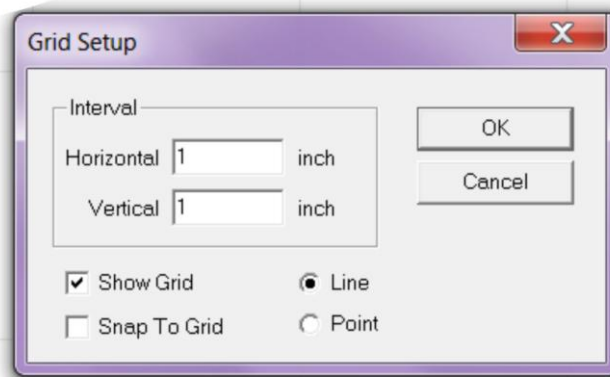

Figure 2
5. Alignment and reference are very important when using CutEngrave; setting up a grid will help you determine size and spacing, as well as provide you with reference points. To setup a grid in CutEngrave, select **VIEW**, then **Grid Setup**. If you want a "1" grid, type a "1" in both the **Horizontal** and **Vertical** fields, select **Show**, and finally, select the option for **Line** if you want a lined grid, or **Point**, if you simply want points for reference. See Figure 2 below. We do not recommend selecting the *Snap to Grid* option, unless you specifically need this feature.